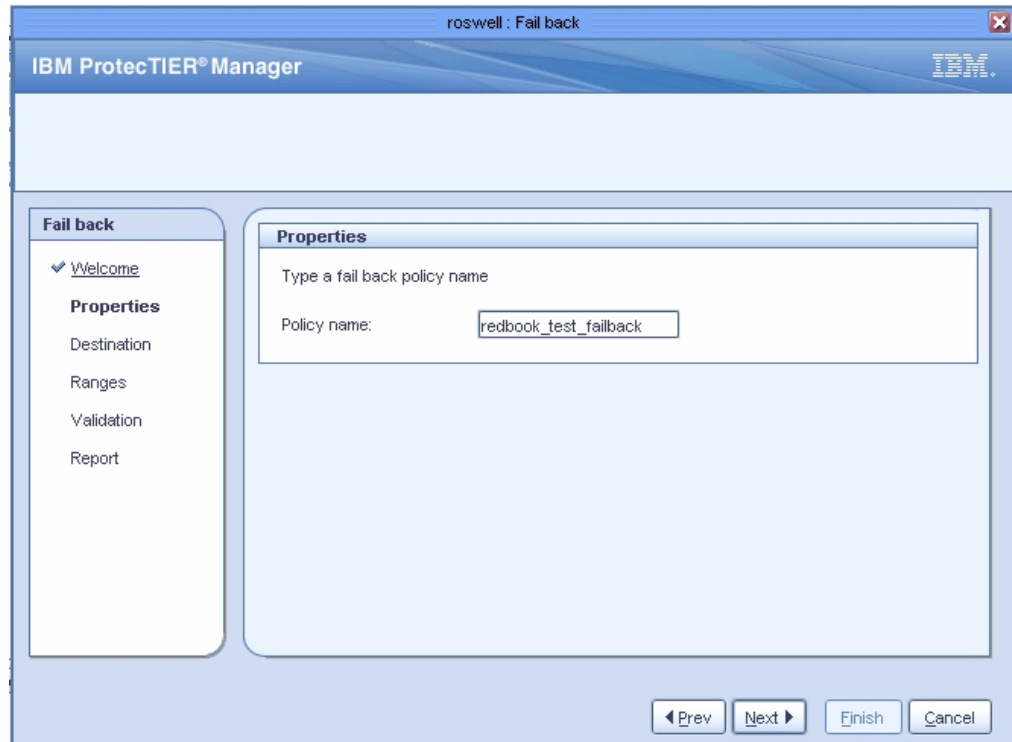

Figure 11-8 Create failback policy properties window
2. Click **Next**. The Properties window opens. Enter a unique name for the failback policy in the Policy name field (Figure 11-8).